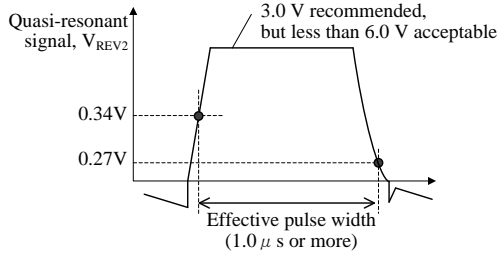

Figure 9-12 The effective pulse width of quasi-resonant signal
- The effective pulse width of quasi-resonant signal is $1.0 \mu s$ or more (refer to Figure 9-12)
power supply specification, $V_{REV2} < 6.0\text{ V}$ (Absolute maximum rating of the BD pin) and the effective pulse width of quasi-resonant signal is $1.0\ \mu\text{s}$ or more (refer to Figure 9-12).